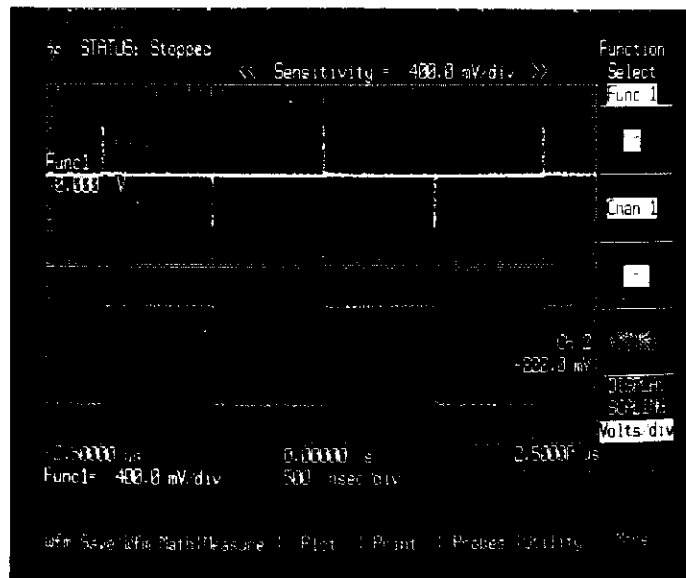

Figure 7-26. Func 1
*Func 1 should be displayed in the top half of the split screen. At this sweep speed Func 1 appears as a narrow voltage spike occurring at the same time as the leading and trailing edges of the cal signal (see figure 7-26). The difference between chan 1 and chan 2 is created by the fact that the signal arrives at the chan 2 input after the signal arrives at chan 1. Remove the input from chan 2 and notice the effect on Func 1. To continue with this exercise reconnect chan 2 to the cal signal.*